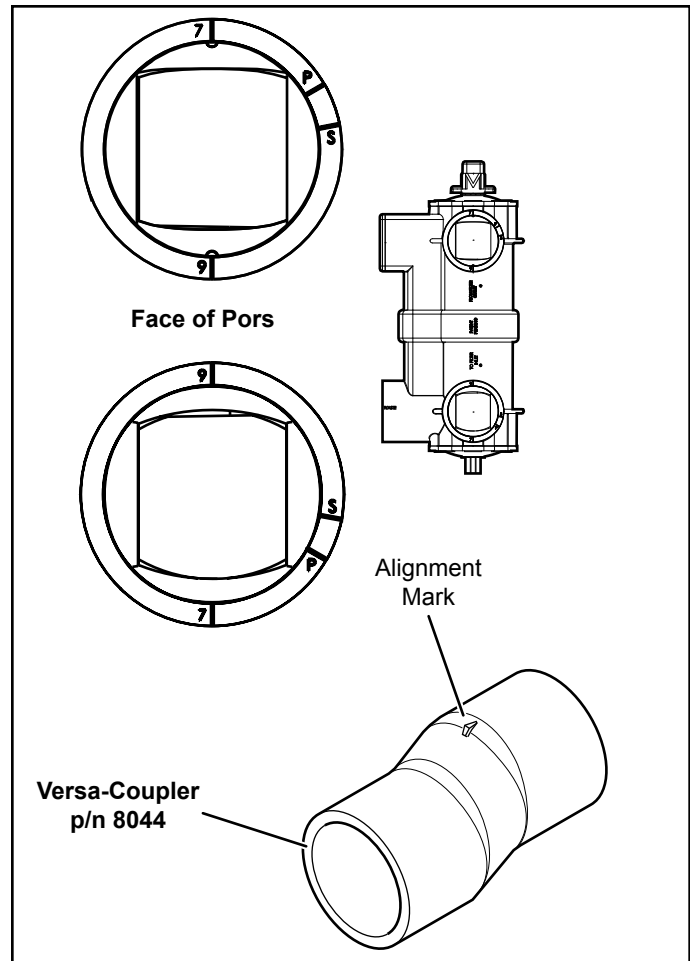

Figure 4. Jandy Versa-Coupler
1. There is an alignment mark on each versa-coupler and four (4) alignment marks on the NeverLube backwash valve port faces. See Figure 4.
**NOTE:** Certain filters require two (2) p/n 8044 versa- couplers.
6. Clean the versa-coupler(s) and glue it onto the filter, matching the valve port marked **TO FILTER INLET** with the filter inlet. Hold the coupler in place for a minimum of one (1) minute.